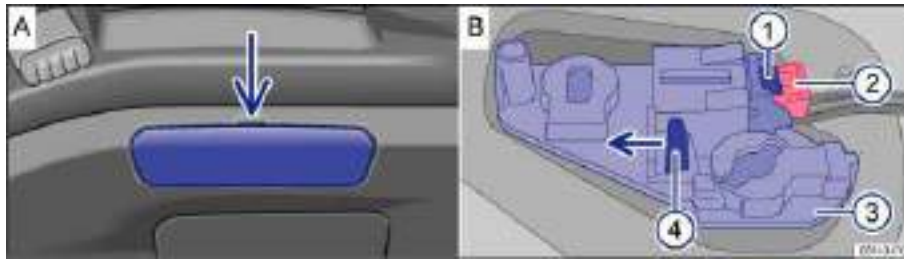

Fig. 204 In the rear hatch: Removing the cover and the bulb holder.
| 3. | Using the screwdriver from the vehicle tool kit carefully pry the cover off with the flat blade of the screw driver inserted in the opening ⇒ fig. 204 A (arrow). |
| 8. | Insert the electrical connector into the bulb holder until it clicks into place. Press the red locking mechanism ⇒ fig. 204 (2) B back in. |